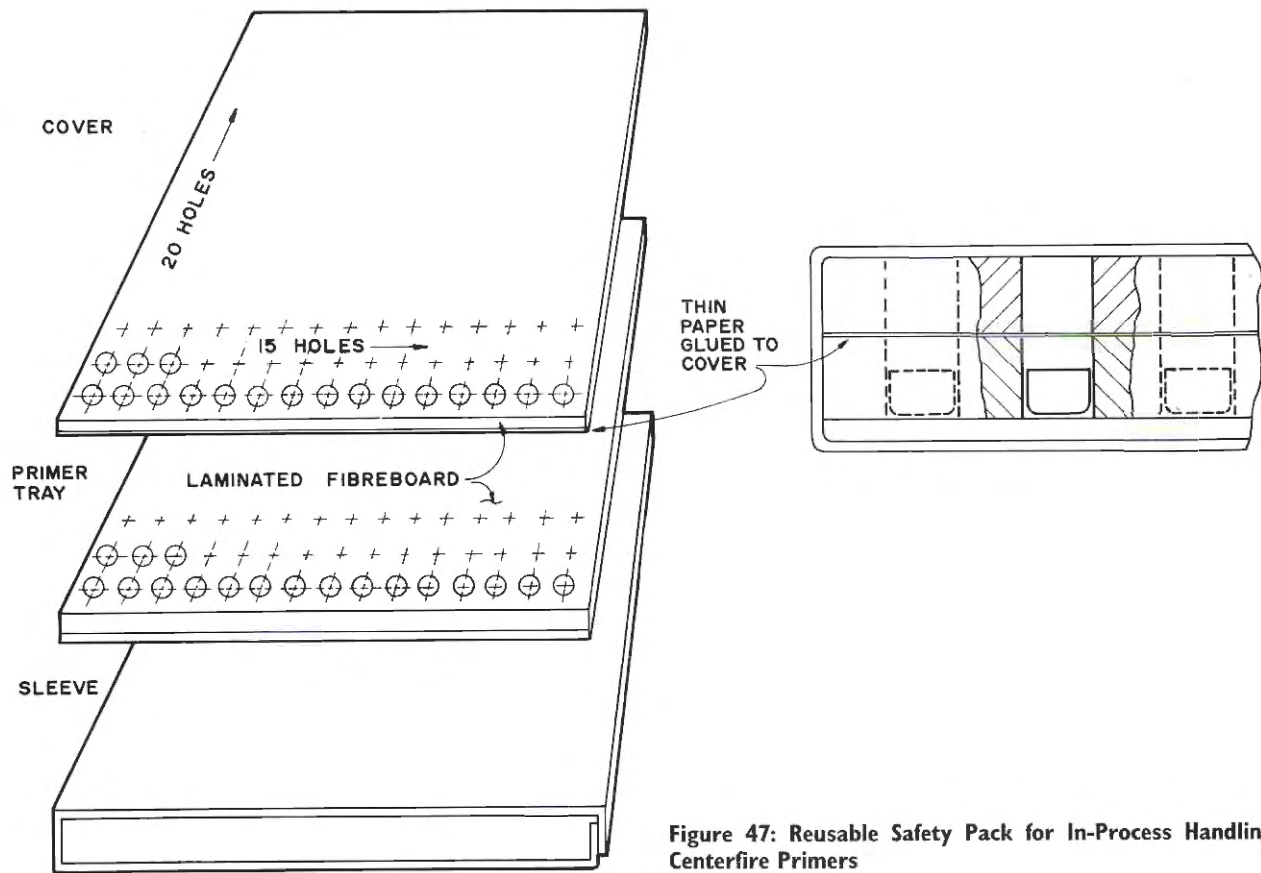

Figure 47: Reusable Safety Pack for In-Process Handling of Centerfire Primers
6. The charger then positions a plate of cases under the pin plate, and places the charge plate on top of the case plate. Dropping the pin plate forces the pellets of priming out of the charge plate and drops them into the bottoms of the cases (See Figures 47 & 48).
In use the pack permitted the primers, a trayful at a time, to be loaded directly onto the metal tray of the priming machine reservoir without further handling. The entire pack was re-usable (See Fig. 47).